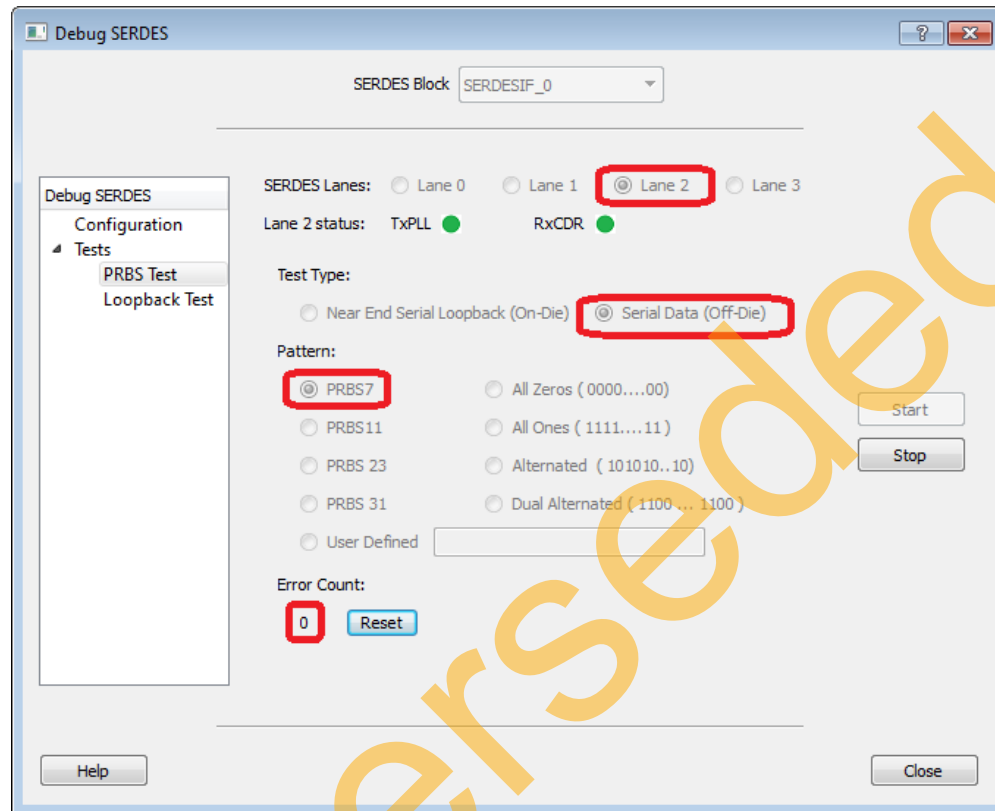
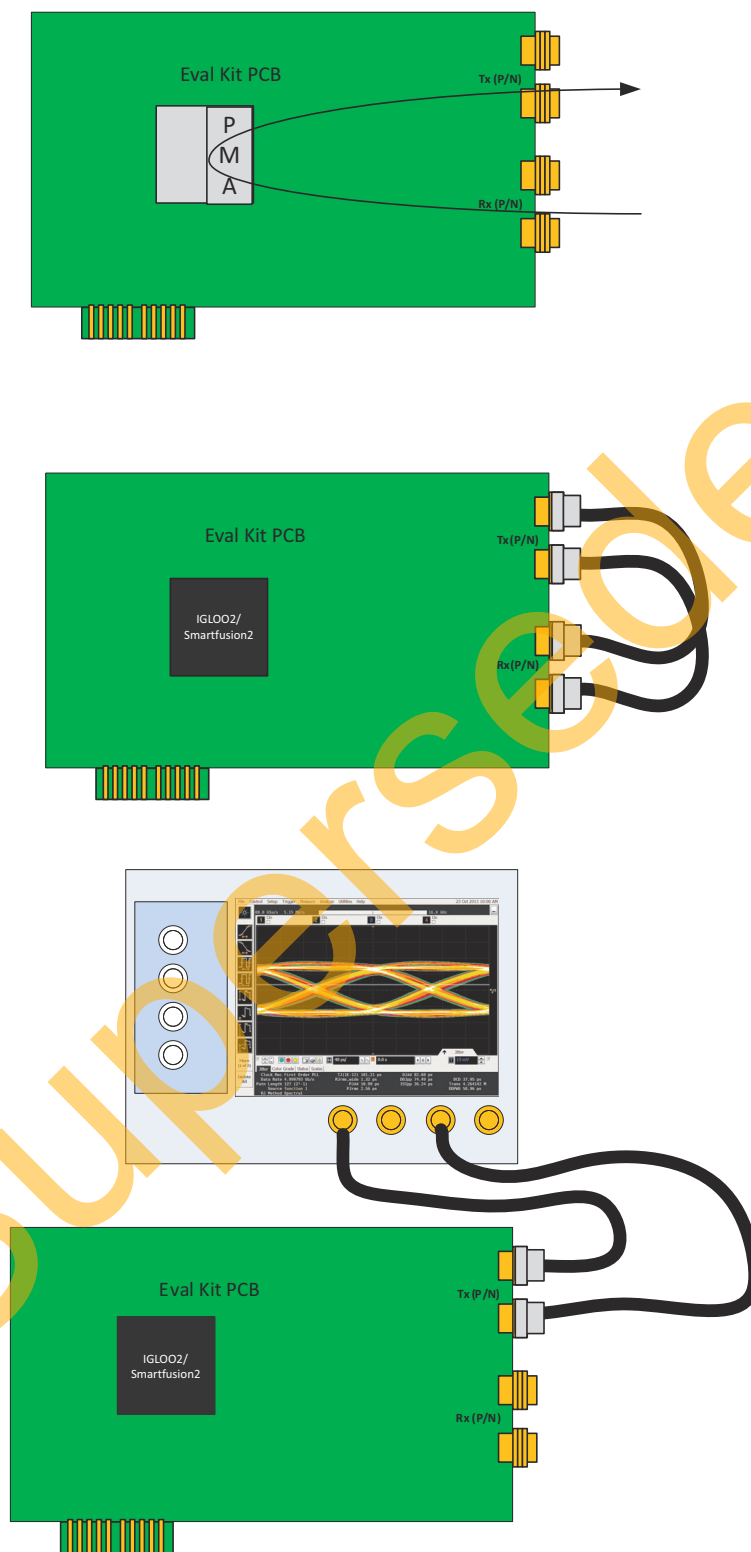

Figure 28 • External Cable Loopback
Figure 29 • Evaluation Kit Board with External Coax Loopback Setup
6. The Tx and Rx channels of Lane 2 can be interconnected in a loop-back configuration using coax cables. In this example, as shown in Figure 28 and Figure 29, after connecting a pair of high-quality 50-Ohm SMA cables to the SMA connections on the Evaluation Kit board, the SERDES debug can be used to send data off-board and check for errors. This requires selection of Lane 2 and Serial Data (Off-Die). A PRBS7 pattern is chosen in the example test.